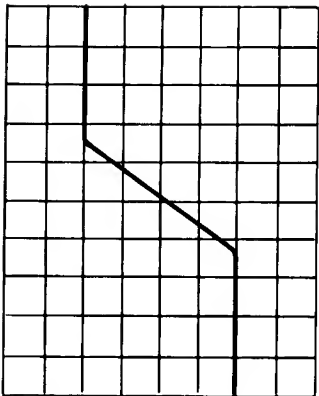

Figure 17c. Time Interval Measurement Using Delayed Time Base - Pulse 2
4. Rotate the **DELAY** control clockwise until the second pulse is positioned on the same point of the center vertical graticule line (see figure 17c). You can verify this is the correct pulse by returning to **MAIN** sweep and observing the intensified portion. Again note the **DELAY** control reading.